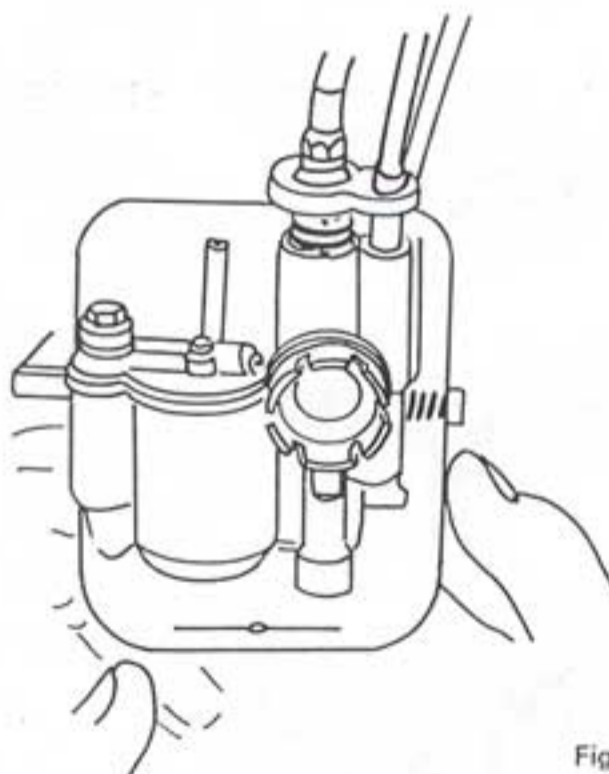

Fig. 1
- Remove the carburetor (fig. 1).